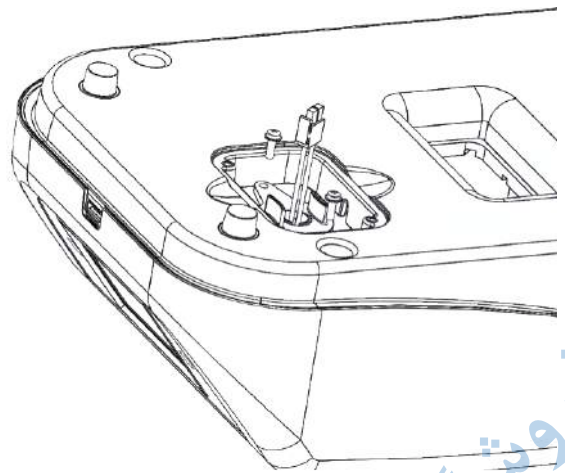

Fig. 2
4. Detach the electrical connector (Fig 2).